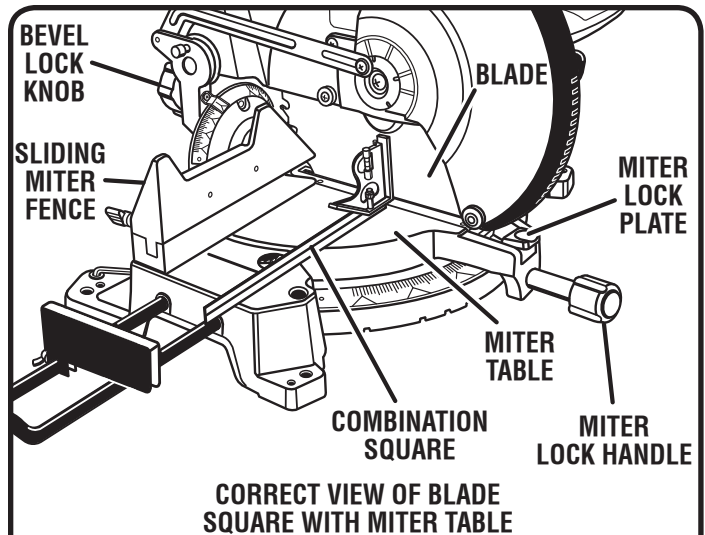

Fig. 29
- The edge of the square and the saw blade should be parallel as shown in figure 29.